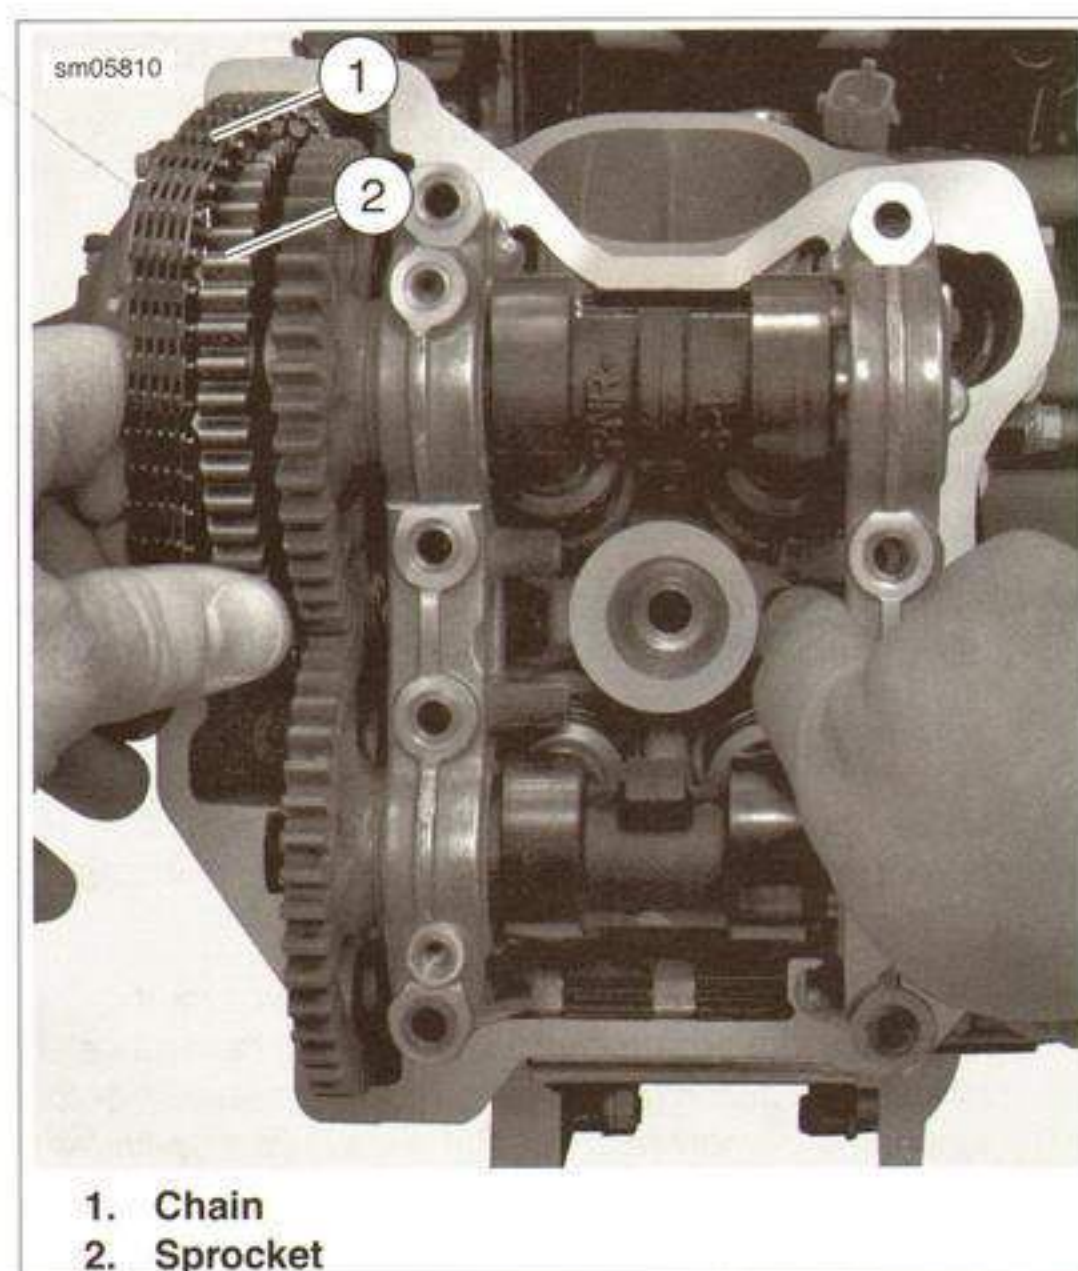

Figure 3-71. Camshaft Assembly Removal
11. See Figure 3-71. Remove camshaft assembly by sliding camshaft chain (1) off of sprocket (2) while lifting assembly.